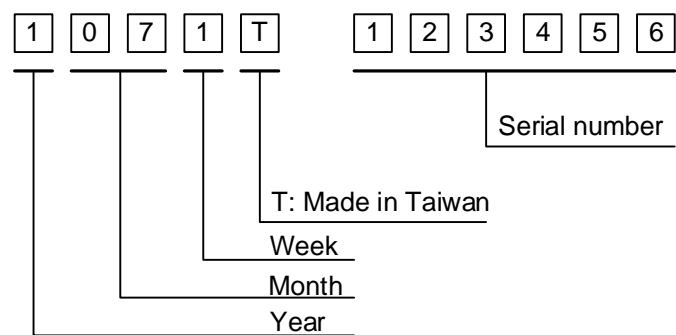

Fig. 13.1
1) The lot mark is showing in Fig.13.1. First 4 digits are used to represent production lot, T represented made in Taiwan, and the last 6 digits are the serial number.